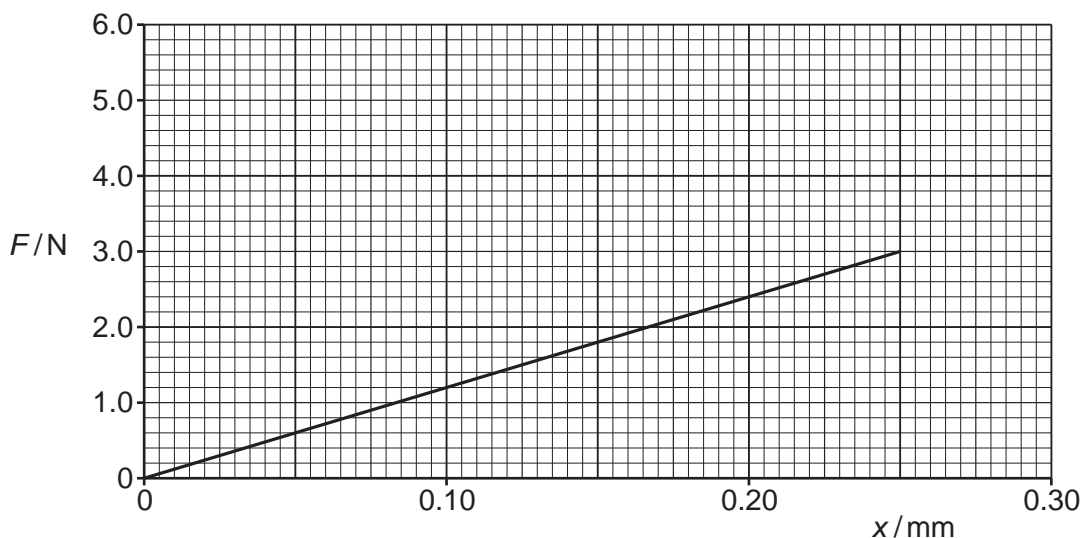

Fig. 5.1
(b) A load F is suspended from a fixed point by a steel wire. The variation with extension x of F for the wire is shown in Fig. 5.1.
(i) State two quantities, other than the gradient of the graph in Fig. 5.1, that are required in order to determine the Young modulus of steel.
- (iii) A load of 3.0N is applied to the wire. Use Fig. 5.1 to calculate the energy stored in the wire.
On Fig. 5.1, sketch the variation with x of F for the copper wire for extensions up to 0.25 mm. The copper wire is not extended beyond its limit of proportionality. [2]